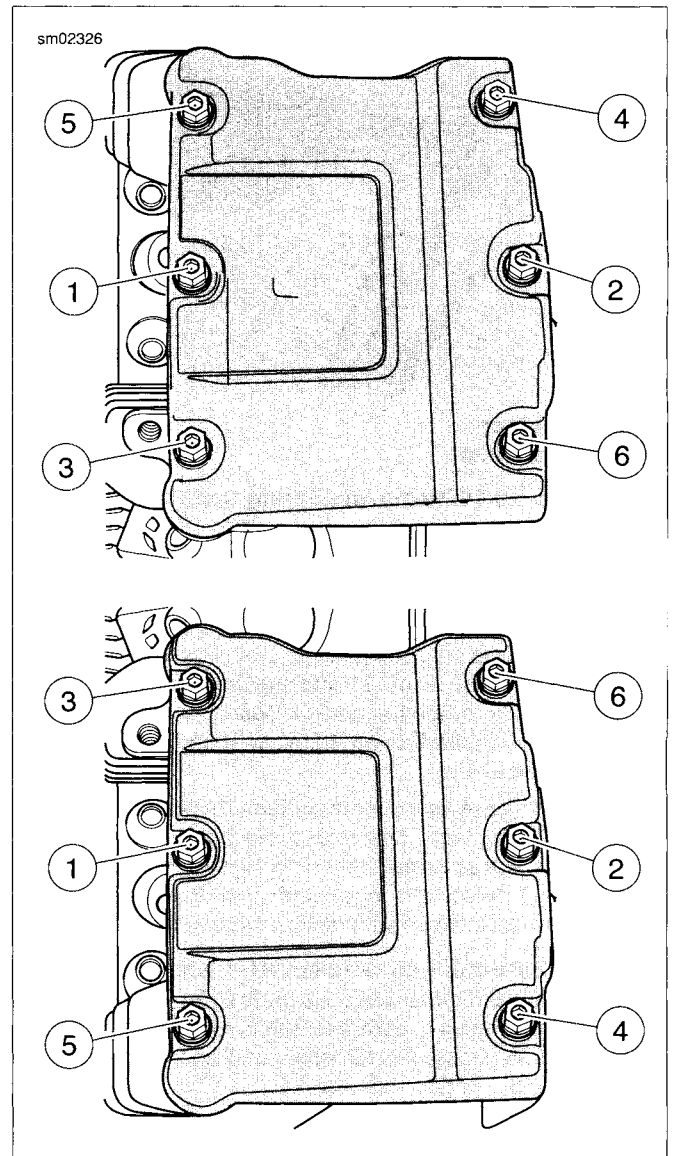

Figure 3-17. Rocker Cover Bolt Removal Sequence
2. See Figure 3-17. Following the sequence shown, alternately loosen the six rocker cover bolts. Remove the rocker cover bolts and their captive washers.